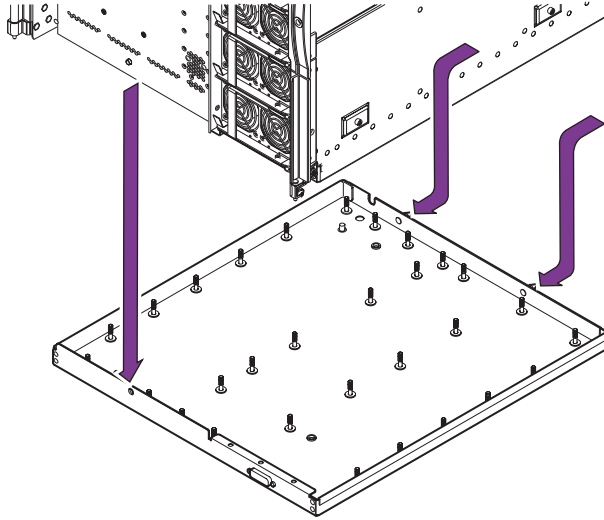

FIGURE 13-4 Removing the Baseplane
19. Remove the baseplane and place it on an ESD mat (FIGURE 13-4).